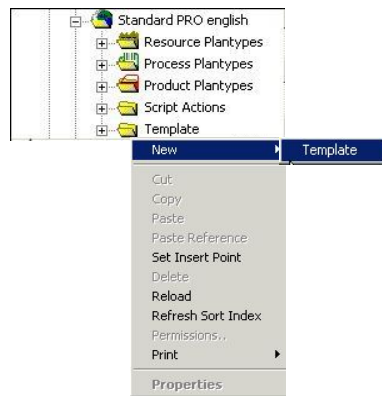

Figure 18: Creating a Template in the System Library
- 1) Open the **Template** folder in the context menu of the **plantype set** where you want to create the template and select the **New < Template** entry. Please refer to the Figure 18.